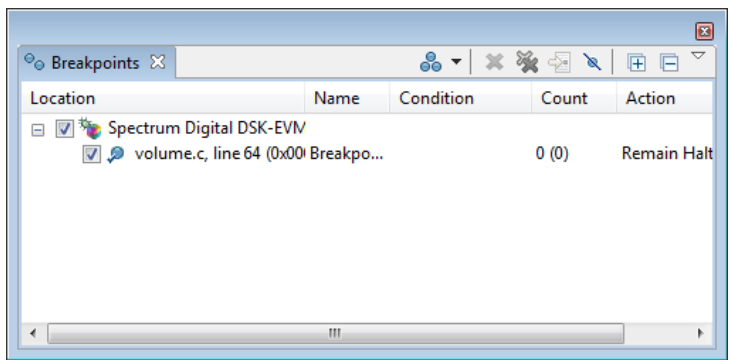

Figure 15: Breakpoints window
- After you have finished experimenting, click the menu **View→Breakpoints** and in the window that opens (figure 15) click  (**Remove All Breakpoints**) before proceeding to the next part of the lesson. Close the breakpoint window.